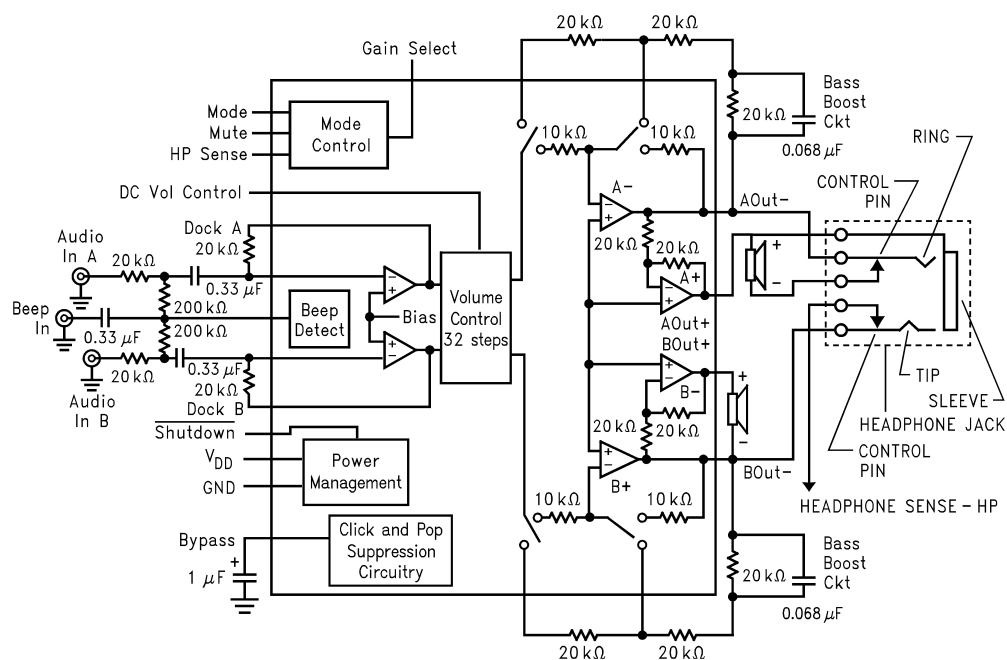

Figure 3. LM4841 Block Diagram
- (1) All voltages are measured with respect to the ground pins, unless otherwise specified. All specifications are tested using the typical application as shown in Figure 3.
- (2) *Absolute Maximum Ratings* indicate limits beyond which damage to the device may occur. *Operating Ratings* indicate conditions for which the device is functional, but do not ensure specific performance limits. *Electrical Characteristics* state DC and AC electrical specifications under particular test conditions which ensure specific performance limits. This assumes that the device is within the Operating Ratings. Specifications are not ensured for parameters where no limit is given, however, the typical value is a good indication of device performance.
- (3) Typicals are measured at $25^\circ C$ and represent the parametric norm.
- (4) Limits are specified to AOQL (Average Outgoing Quality Level). Data sheet min/max specification limits are specified by design, test, or statistical analysis.
- (5) When driving 3Ω loads from a 5V supply, LM4841MH and LM4841LQ must be mounted to the circuit board and forced-air cooled.
- (6) When driving 4Ω loads from a 5V supply, the LM4841MH and LM4841LQ must be mounted to the circuit board.